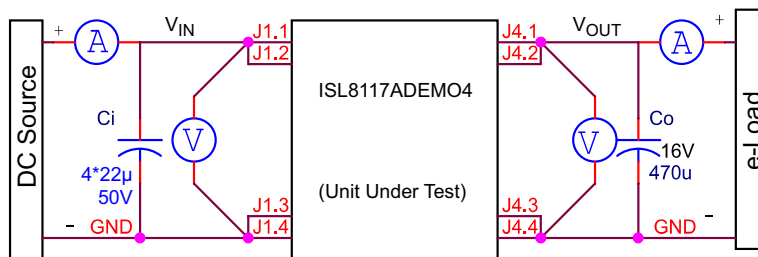
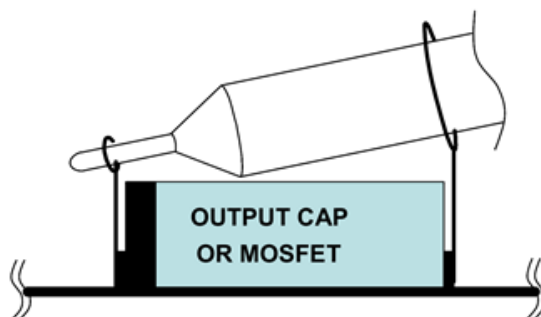

Figure 2. Proper Test Setup
Figure 3. Proper Probe Setup to Measure Output Ripple and Phase Noise Ringing
- (1) Ensure that the circuit is correctly connected to the supply and electronic loads before applying power. Refer to Figure 2 for proper setup.
- (2) Turn on the power supply.
- (3) Adjust the input voltage  $V_{IN}$  to a value within the specified range and observe the output voltage. The output voltage variation should be within 5%.
- (4) Adjust the load current to a value within the specified range and observe the output voltage. The output voltage variation should be within 5%.
- (5) Use an oscilloscope to observe output voltage ripple and phase node ringing. For accurate measurement, refer to Figure 3 for proper test setup.
As shown in Figure 2, 6.5V to 42V  $V_{IN}$  is supplied to J1.1 (+) and J1.3 (-). The regulated 12V output on J4.1 (+) and J4.3 (-) can supply up to 3A to the load.